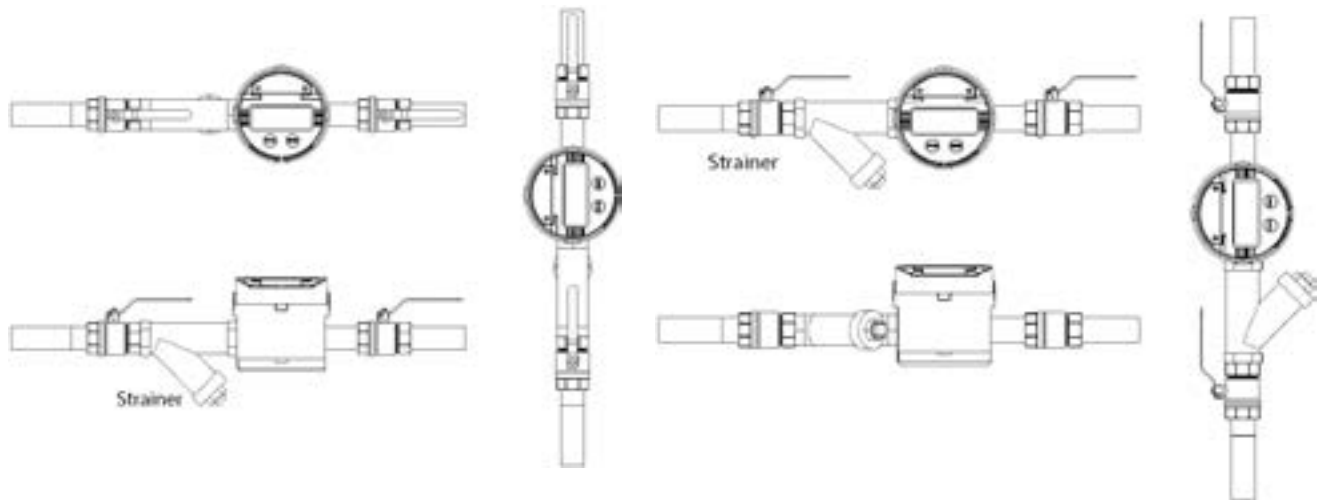

Figure 1: Meter installation
- Make sure to install the meter as shown in "Figure 1".